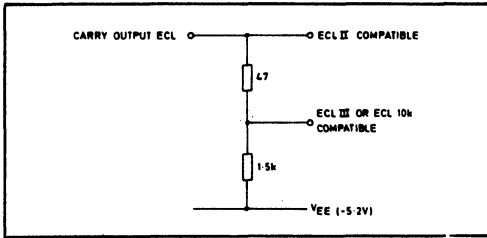

Fig. 3 ECL III/ECL 10000 interfacing
- The FCL carry output is compatible with ECL II throughout the temperature range but can be made compatible with ECL III using the simple interface shown in Fig. 3.